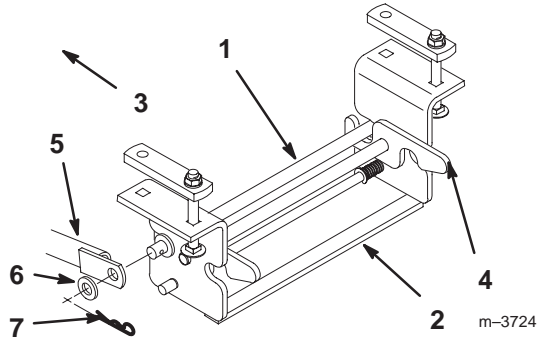

Figure 21
13. Open the latches on the rear Attach-A-Matic™ hitch. Put the support rod link into the front notches on the rear Attach-A-Matic™ hitch and close the latches to secure it in place (Fig. 21).
- Secure the braces to the rod with a 13/16" (21 mm) washer and a large hairpin cotter (Fig. 21).